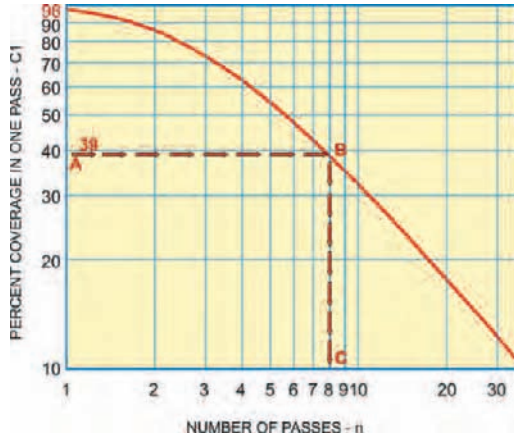

Fig.3 Prediction of number of passes, n , required to induce 98% (full) coverage.
Equation (4) has been plotted as fig.3 (using log-log scales to produce a straighter curve). The 'arrowed path', **ABC**, illustrates how, for example, a 39% coverage measured for one pass leads to a predicted 8 passes for 98% coverage.